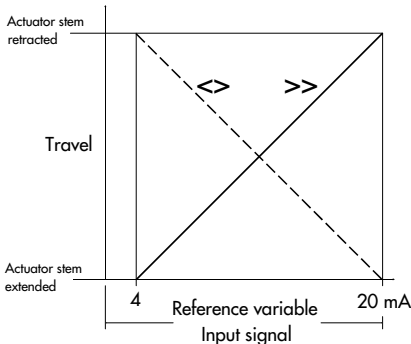

Fig. 11 · Increasing/decreasing characteristic
In **split-range operation**, the control valves require smaller reference variables (input signals). For this purpose, the controller output signal for operating two control instruments is divided in such a way that these pass through their entire travel at half an input signal each (e.g., first control valve adjusted to 4 to 12 mA and second control valve adjusted to 12 to 20 mA). In order to avoid overlapping of the valves, a dead band of  $\pm 0.5$  mA must, if applicable, be considered (see Fig. 11).
A valve should move from the closed position to the opened position (travel 0 to 100 %) with an input signal of 4 to 20 mA (see Fig. 11 characteristic increasing-increasing >>).
**The starting point (zero) for the control valve always refers to the closing position (Fig. 11). With reverse operation direction (e.g., 20 to 4 mA = 0 to 100 % travel, switch position increasing-decreasing <->), the closing position assumes a value of 20 mA; the zero adjuster must then be adjusted to 100 %. Consequently, the final value (4 mA) is adjusted as described above using the span adjuster.**